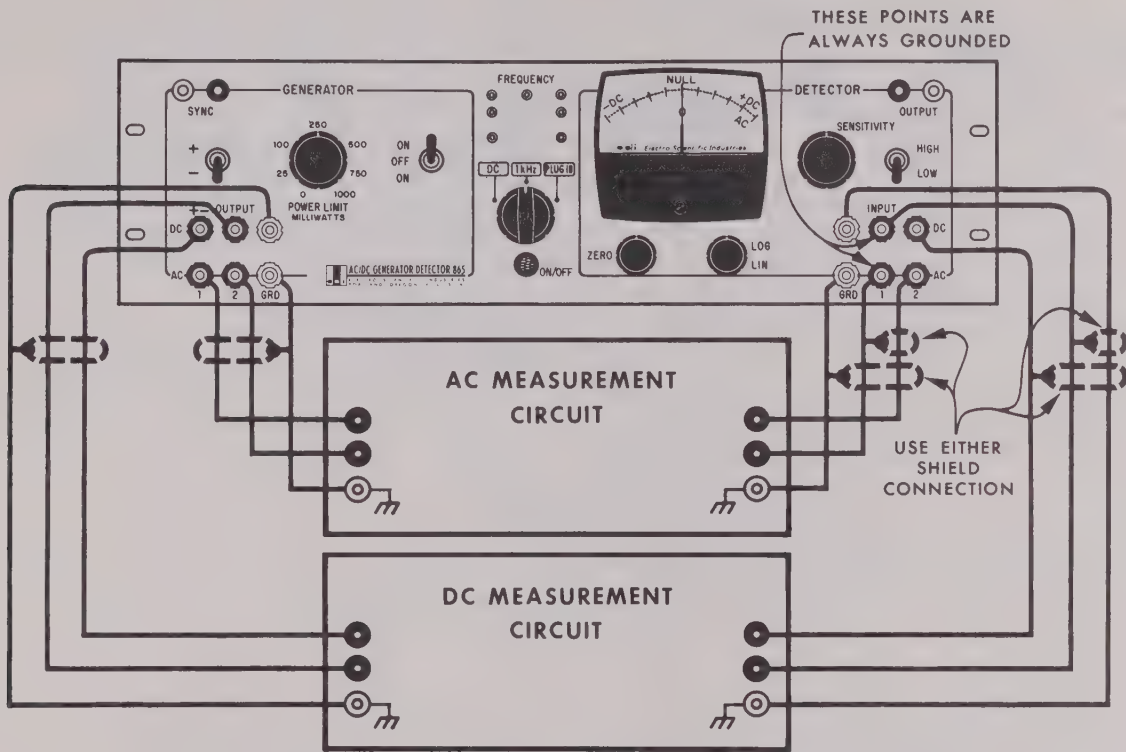

Figure 2-2. Basic Operating Procedure
2. Connect measurement circuit to GENERATOR OUTPUT and DETECTOR INPUT binding posts as illustrated in Figure 2-2. DETECTOR INPUT AC and DC binding posts 1 are grounded.